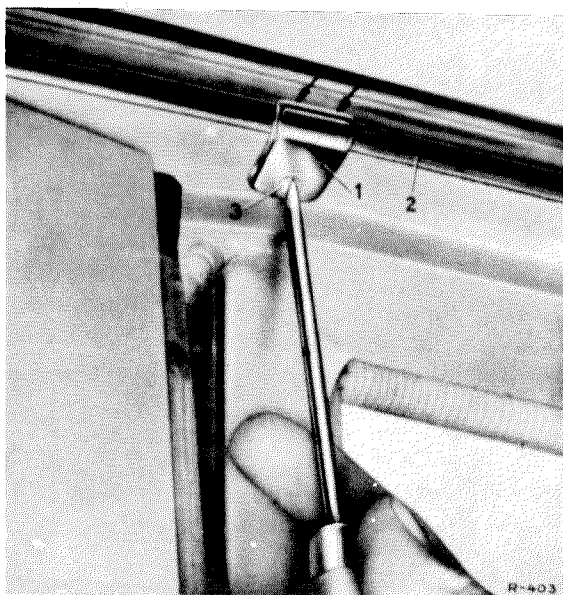

Fig. 69 — 4/1
1. Unscrew the butt strap (1) covering the butt of the drip molding (2) so that the two fastening rivets become visible (Fig. 69—4/1).